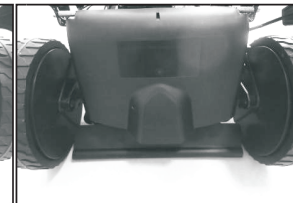

Fig.8C
3. Lower the rear cover again. (Fig.8C)